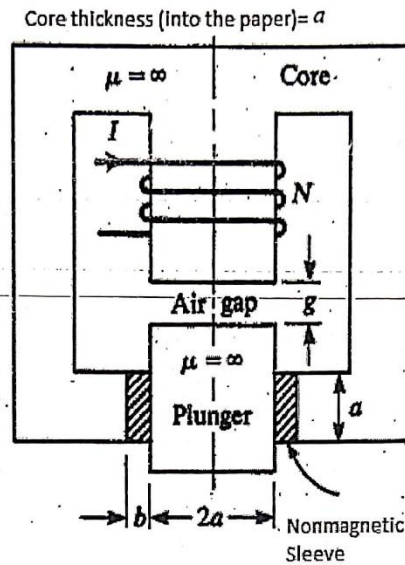

Fig. 1
- Q (1) Consider the solenoid shown in Fig.1. Let the coil have a resistance  $R$  and be excited by a voltage  $v = V_m \sin \omega t$ . For a displacement  $g_0$  between the plunger and the coil (pole face), determine the steady state (i) coil current (ii) electric force